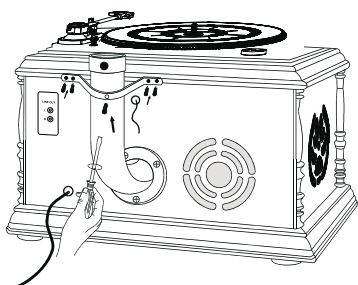

Fig. 7.
6. Look at **Fig7**. Match the holes on the U-type (B) bracket according with the holes on the RT-CC411RIP host cabinet as shown. Rotate clockwise four screws D(H) into the holes on the sides and one screw B(F) into the middle and tighten.